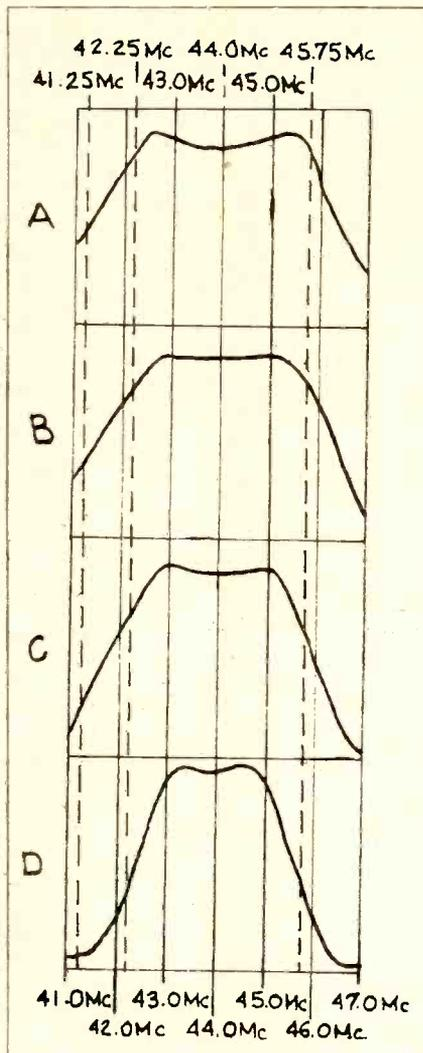

Fig. 1. Proper curves to be obtained, working backward through the IF strip of the receiver.
4. Set the marker generator at 44 Mc and adjust the primary (bottom slug) of the fourth video IF transformer until it is peaked at 44 Mc. Adjust the secondary (top slug) of this transformer for curve symmetry, and check the curve at 42.25 Mc, 43 Mc, 45 Mc, and 45.75 Mc as shown in Fig. 1(a).
6. Adjust the primary of the third IF transformer until it is peaked at 44 Mc. Adjust the secondary of this transformer for curve symmetry, and again use the check points as shown in Fig. 1(b).